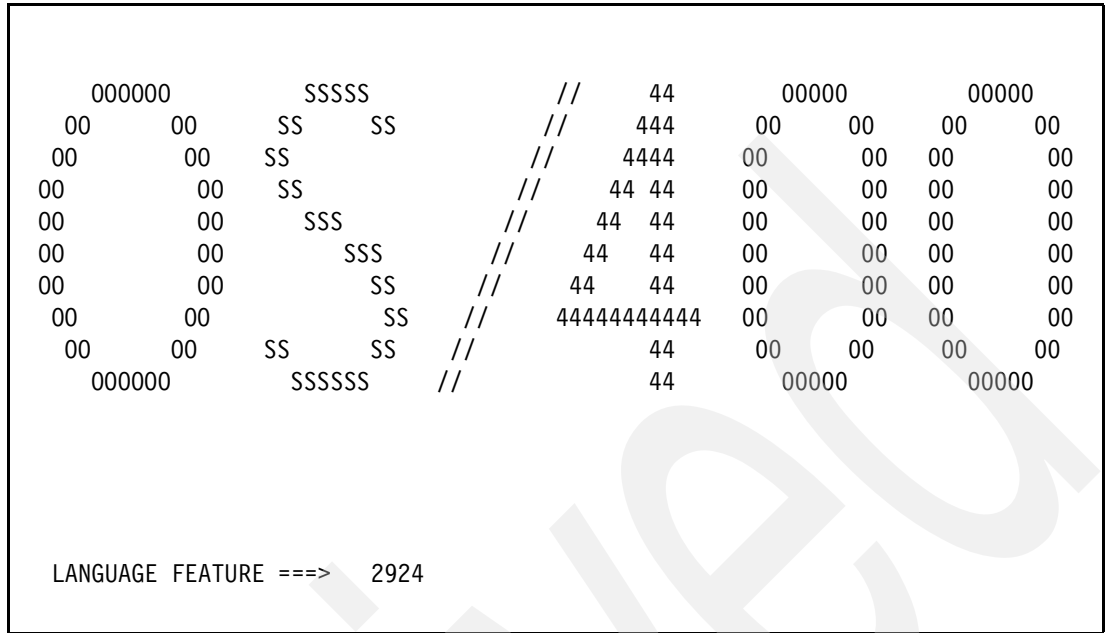

Figure 5-11 OS/400 logo panel
4. On the OS/400 logo panel (Figure 5-11), enter the language feature code.